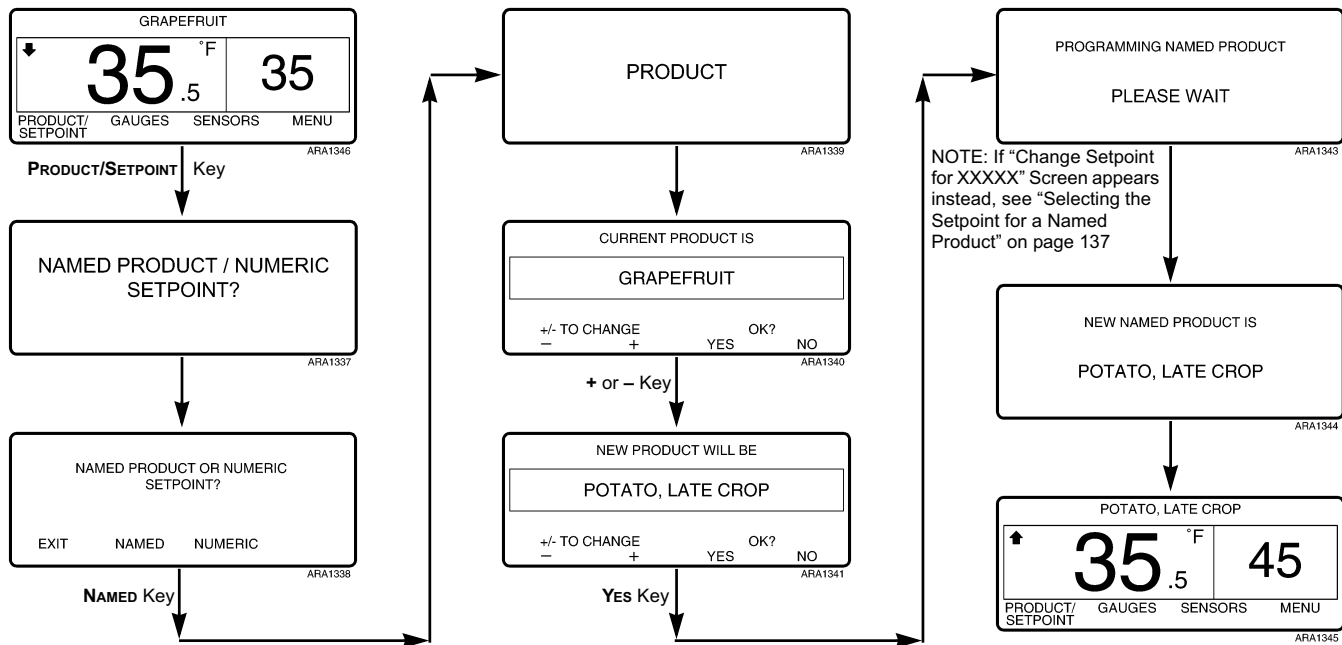

Figure 95: Selecting or Changing Named Product Screen Sequence
3. The “Named Product / Numeric Setpoint?” (or Named Product) Screen briefly appears, then the “Named Product or Numeric Setpoint?” (or Named Product) Screen will appear. See Figure 95.
4. Press the **NAMED** soft key. See Figure 95.
5. The “Product” Screen briefly appears, then the “Current Product Is” Screen will appear. See Figure 95.
6. Press the **+** or **-** soft keys to change the named product. See Figure 95.
7. Press the **YES** or **NO** soft key accordingly as described below. See Figure 95.
8. The “Programming Named Product” Screen will briefly appear. See Figure 95.
9. The “New Named Product Is XXXXX” Screen briefly appears. See Figure 95.
10. The Standard Display appears with the new named product. See Figure 95.